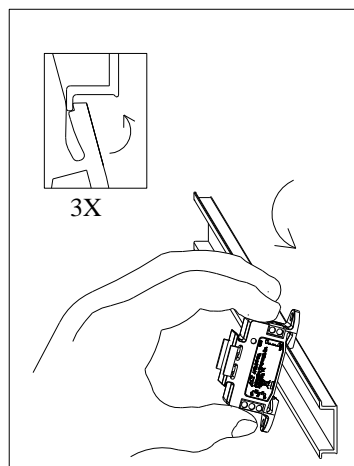
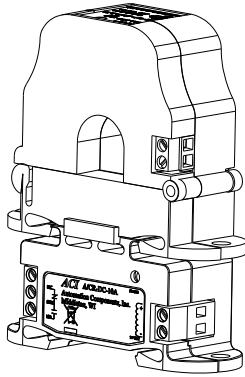
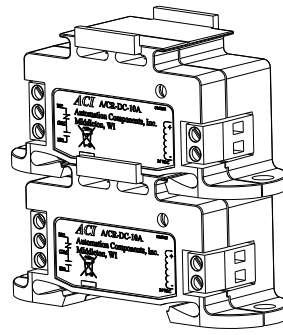

Figure 1: Relay Placed on Rail
Figure 3:
Figure 4:
The Command Relays may be mounted in any position using the (2) #8 x 3/4" Tek screws and the mounting holes in the base or snapped directly on to the 35mm DIN rail (See Figures 1 & 2). The ACI current switches and sensors may be snapped directly on to the top of the command relays (See Figure 3) or multiple command relays may be snapped directly on to the top of each other as shown in Figure 4. Leave a minimum distance of 1" (3 cm) between the command relays and any other magnetic devices such as contactors and transformers.